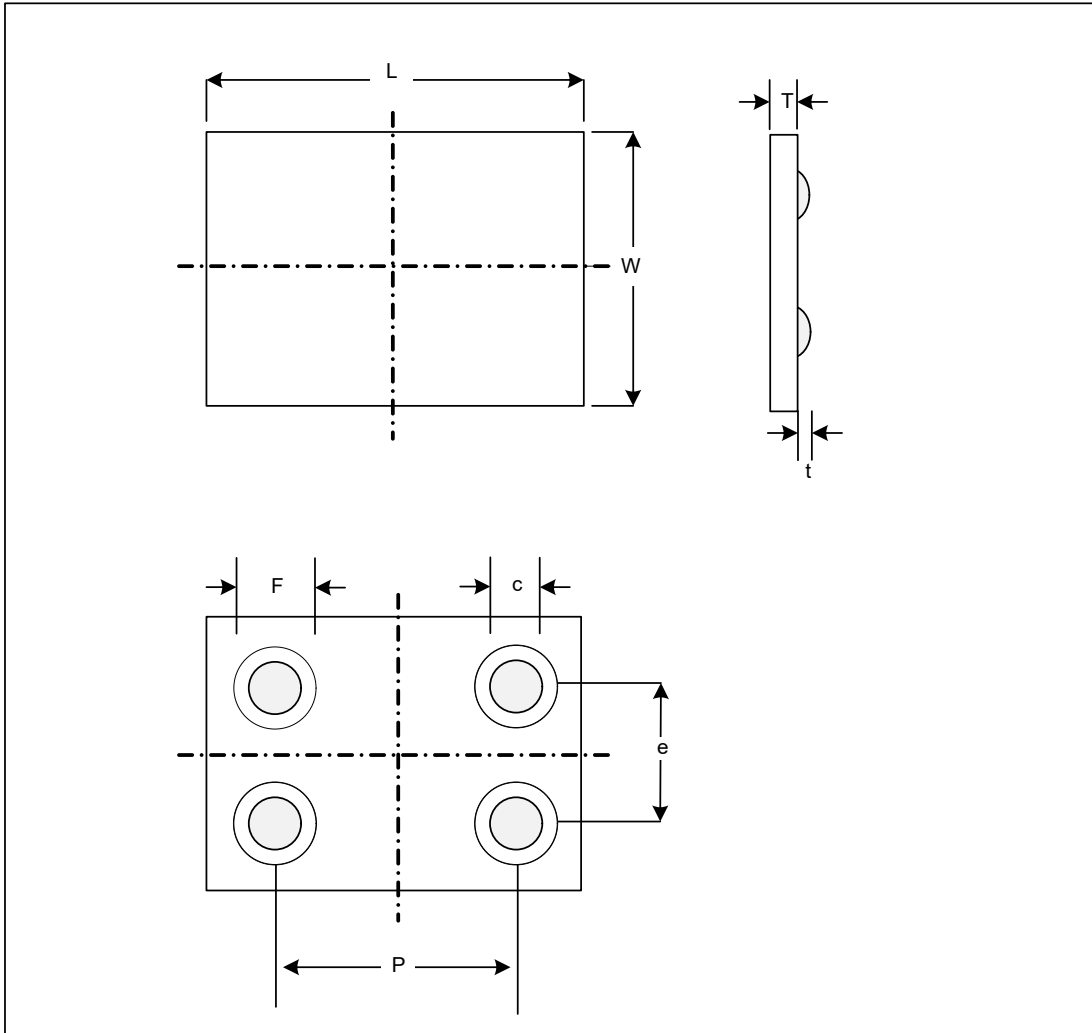

Figure 7 - Package outline Capacitor
- (1) Other film frame carrier are possible on request
- (2) ENIG + SAC305 type 6
- (3) missing capacitors can reach 0.5%
- (4) Refer to Figure7.